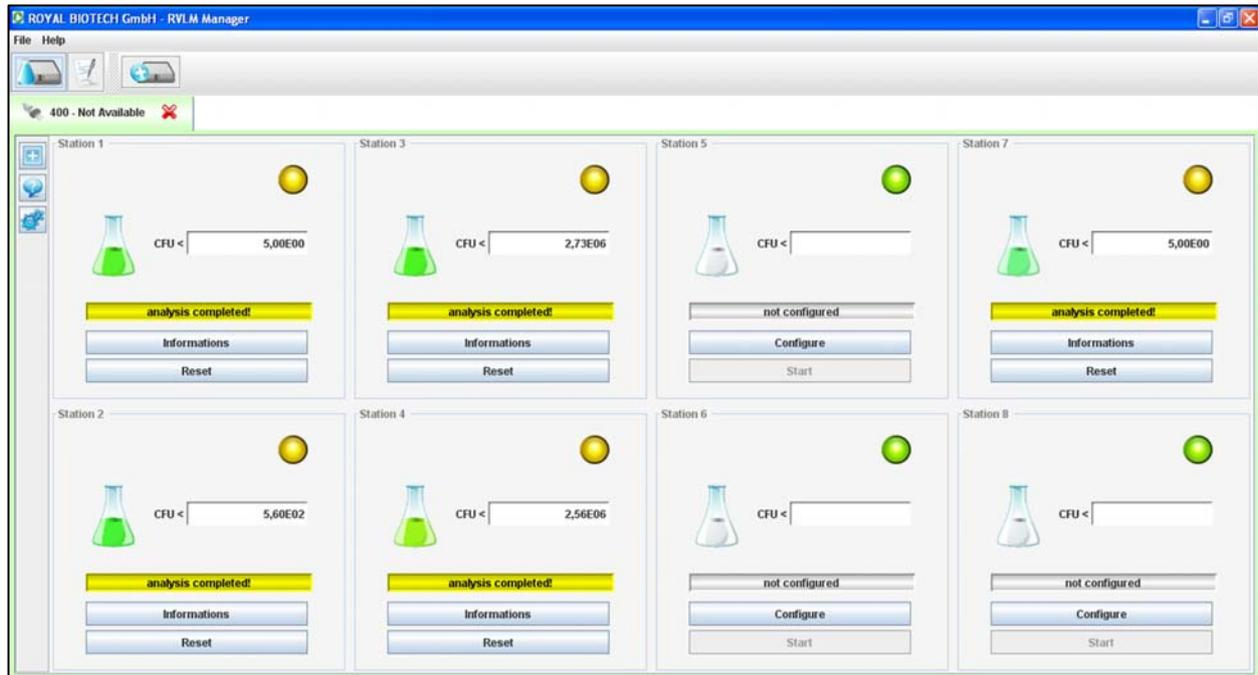

Fig. 16. RVLM – End of analysis
- The results obtained using the RVLM can be (fig.16):